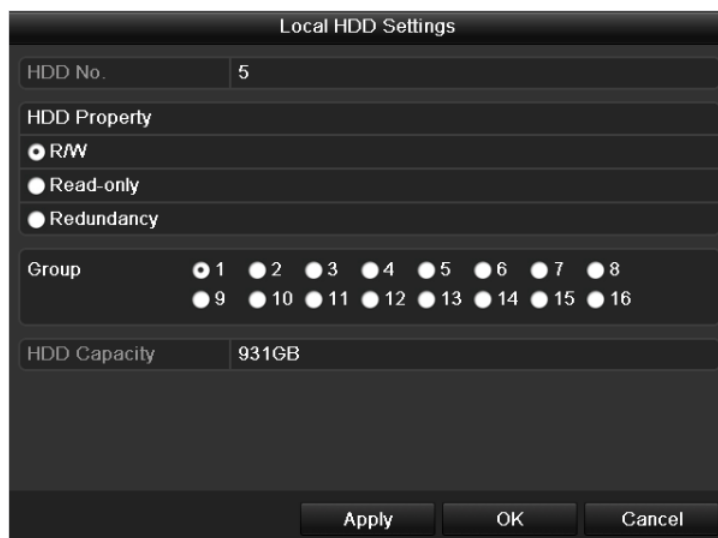

Figure 11. 17 Set HDD Property
2. Select HDD from the list and click the  icon to enter the Local HDD Settings interface, as shown in Figure 11. 17.